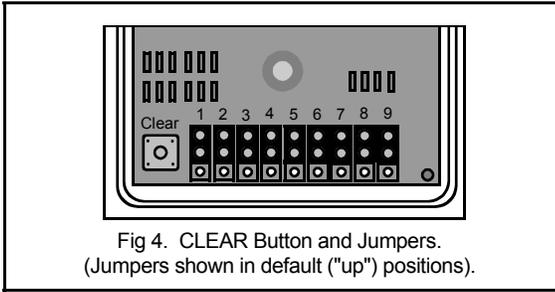

Fig 4. CLEAR Button and Jumpers.
1. Connect the battery; a chirp will sound ensuring that power is properly connected. **Important:** Press the small CLEAR button at the lower-left corner of the circuit board (see Figure 4 below).
Disconnect and reconnect the battery and press the "Clear" button (see Fig. 4). Hook the Housing Cover into the clip at the bottom of the Baseplate, then gently snap the top of the Housing cover into the top of the Baseplate. **DO NOT FORCE.** **Note:** If the switch is in the wrong position (not moved to the right), or if a key is accidentally left inside the cylinder, the Housing Cover is specifically designed NOT to lock into the Baseplate.